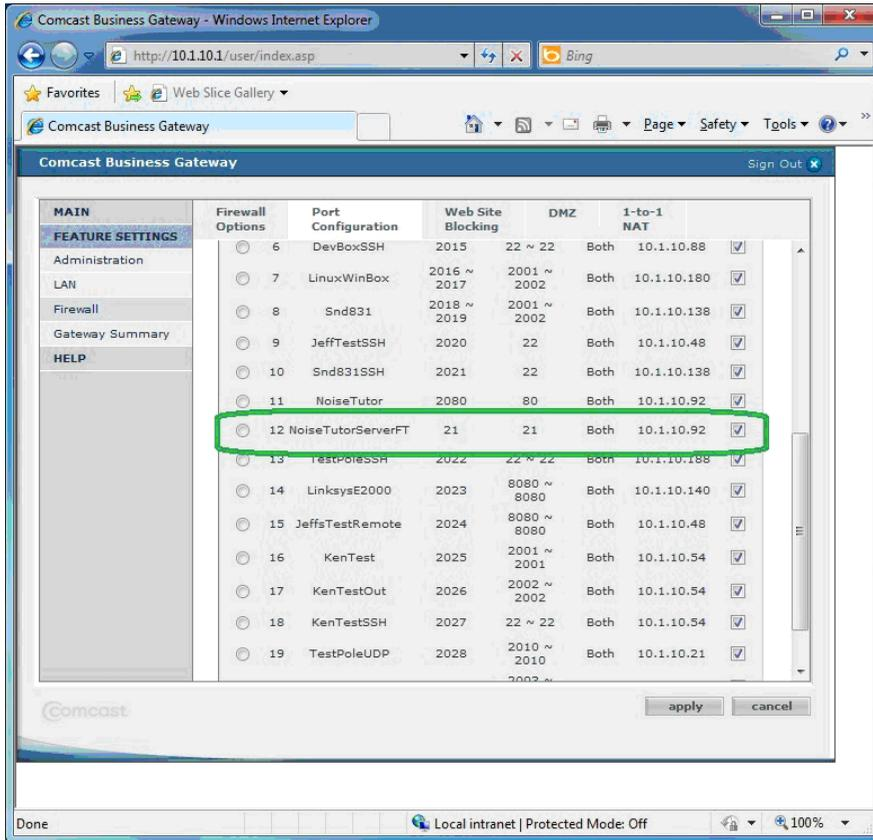

FIGURE 2-47 Router Port Forwarding - FTP Service
Step 2 Verify that the router has port forwarding or port triggering rules for the FTP port, as shown in FIGURE 2-47.